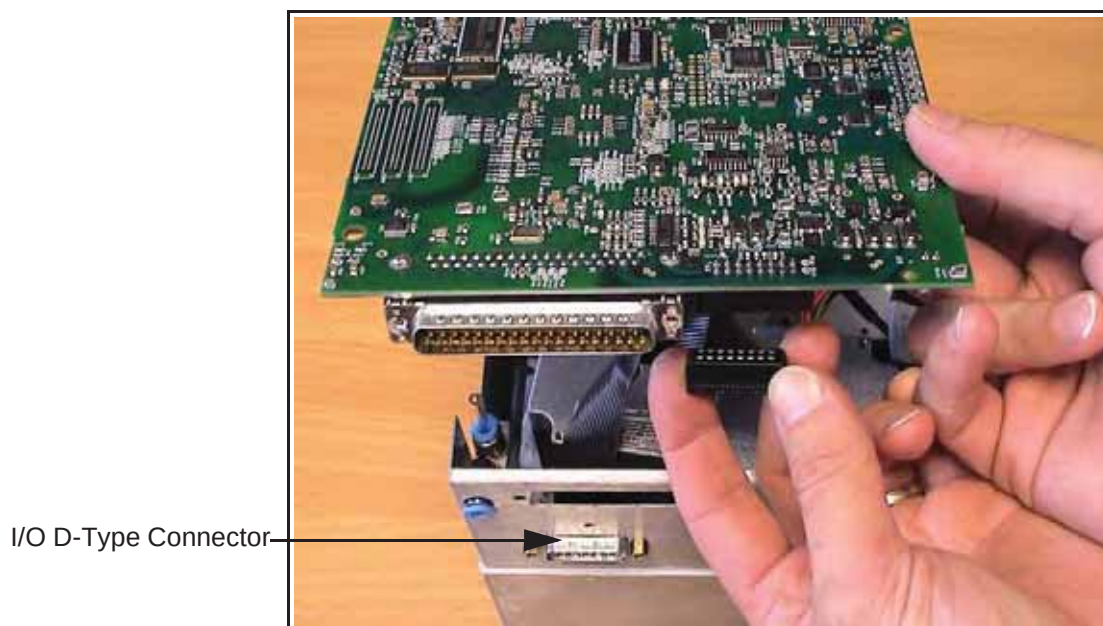

Figure 5-17: Main PCB Replacement
- 8 To replace the PCB firstly insert and secure the I/O D-Type connector to the side plate (Figure 5-17).